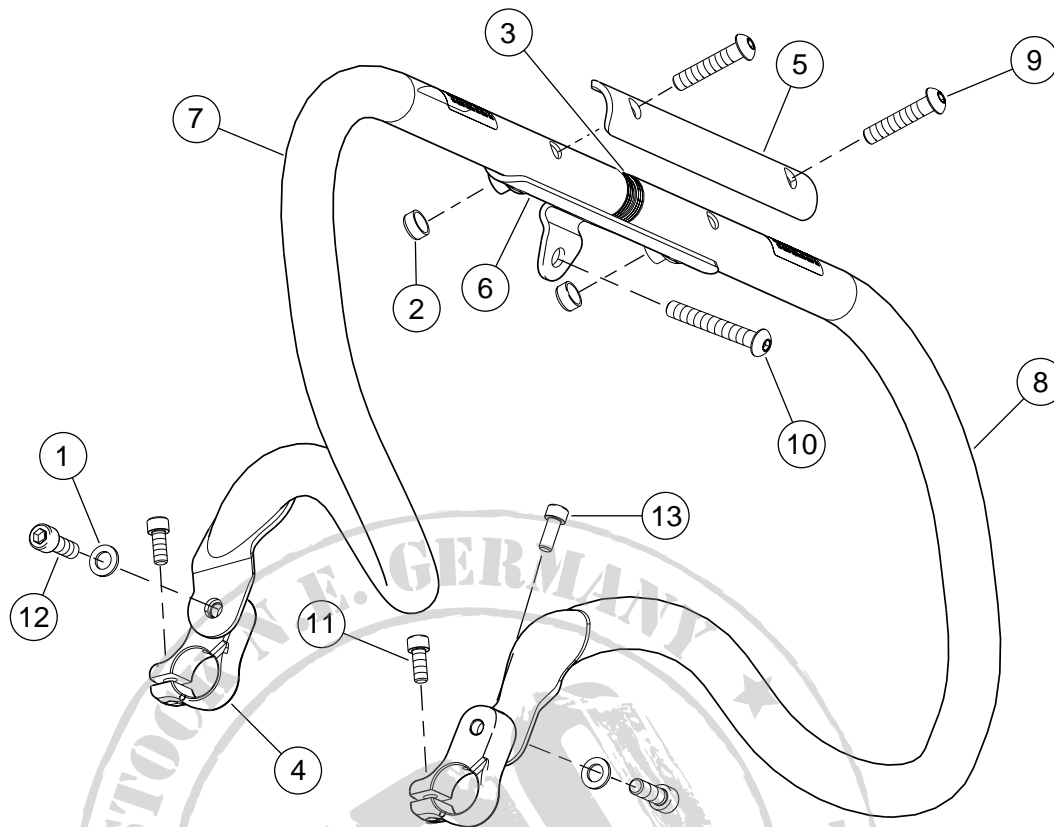

Figure 4. Service Parts: Engine Guard Kit
See Figure 4 and Table 1.
2. See Figure 4. Obtain one of two engine guard mounts (4) from kit. Slide the engine guard mount over the frame foot control mounting boss positioning the open (clamp) end of the mount towards the rear of the vehicle.
4. See Figure 4. Obtain rubber hole plug (13) from kit and install into clearance hole.
8. See Figure 4. Using 70 mm Screw (10) from kit, secure the engine guard mounting bracket to the frame as shown making sure the formed half-cylinder of the bracket is